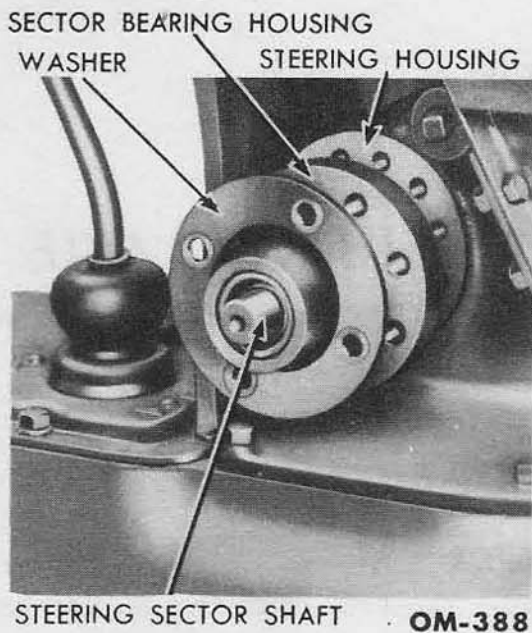

Fig. 31—Steering Sector Clearing Adjustment
c. Adjust Steering Sector Clearance. The steering sector clearances may be adjusted with the steering gear in place. The left sector may be adjusted by removing the four cap screws which secure the left sector bearing housing to the steering housing. The bearing housing (fig. 31) is eccentric. By rotating the sector bearing housing, it is possible to adjust the backlash between the sector and the nut. The minimum backlash that will not cause hard steering is the desirable adjustment. Repeat the same procedure for adjusting the backlash on the right-hand sector.